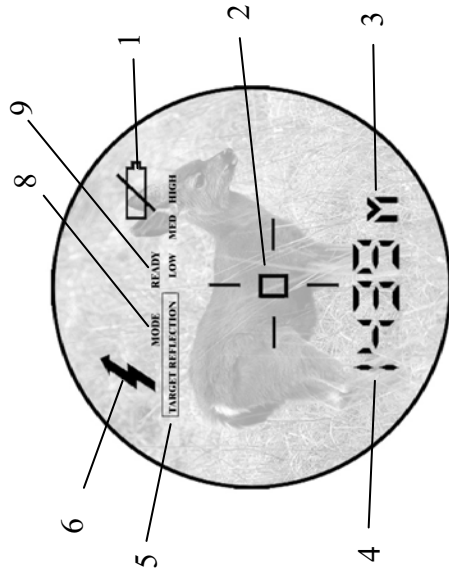

Fig. 3. Liquid Crystal Display as seen through the eyepiece
- *Ready to Measure* – **Ready** (9) (Fig. 3) is displayed
If measurement is unsuccessful four dashes ('----') will be displayed in the area (4) (Fig. 3). For successful measurement the target must be at least 20 m away.